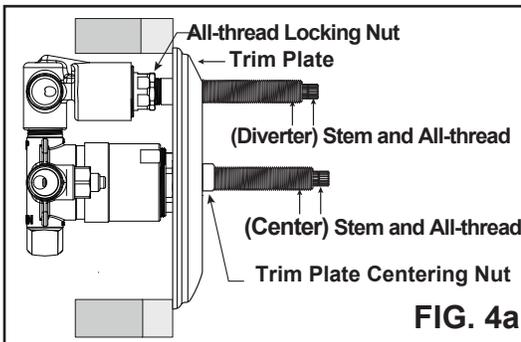

FIG. 4a
1. Install extended stem and all-thread onto cartridge stems. Fully seat stem onto cartridges by tightly securing the all-threaded tubes and locking nuts onto valves. Install plate and centering nut onto center all-thread. FIG 4a.
1. Install extended stem and all-thread onto cartridge stems. Fully seat stem onto cartridges by tightly securing the all-threaded tubes and locking nuts onto valves. Install plate and centering nut onto center all-thread. Handle Stixx uses the universal collar in lieu of the centering nut- this threads over the all-thread until the top of the collar is flush with the plate. FIG 4a.